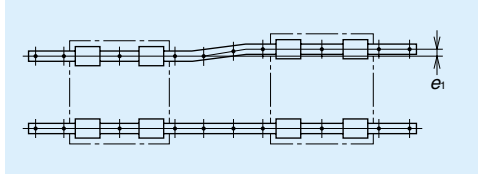

Fig. II-9-5
**(3) Permissible values of mounting error**
- Fig. II-9-5 and II-9-6 are representing the mounting errors. Their permissible values of mounting error are shown in Table II-9-4 to II-9-7.